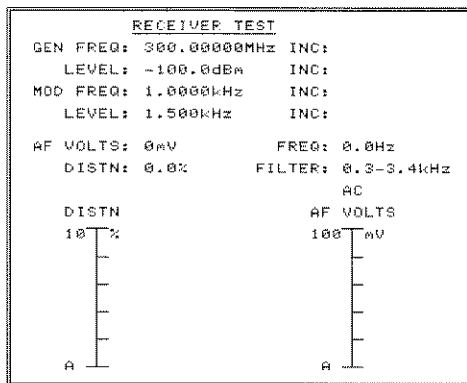

Fig. 3-6 Display following switch-on
- (1) Switch on both the 2955 and the Adapter. (There is no particular order of switching on). All four LEDs on the Adapter light and then three go out after a pause. The LED remains lit above the 2955 key. The **RECEIVER TEST** display appears on the screen as shown in Fig. 3-6. If one or more LEDs flash, this indicates a fault condition. (See 'Conditions indicated by LEDs' below).